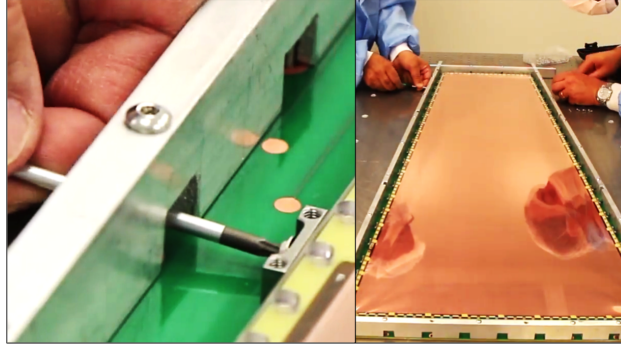

Figure 101: Stretching of the foils (2).
Step 3: Continue with the lateral sides. Always proceed with two persons stretching in the opposite directions. (Fig. 101).